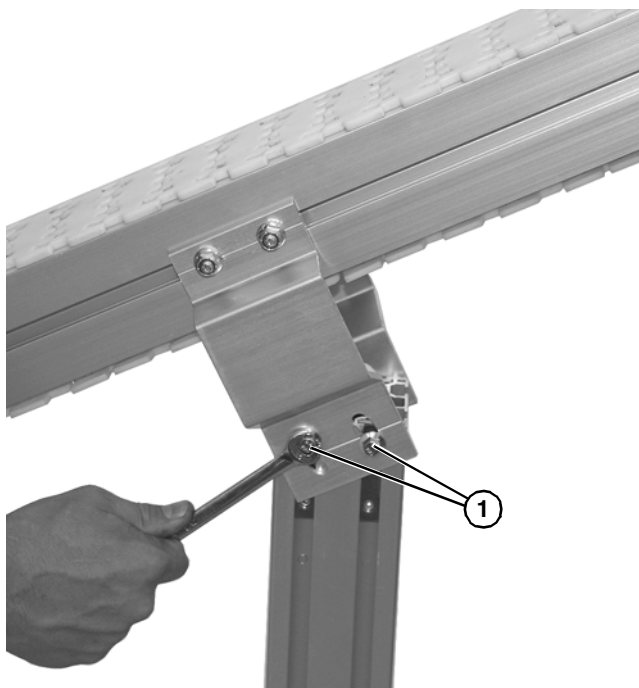

Figure 8
Failure to secure screws (Figure 8, item 1) may cause conveyor sections to drop down, causing severe injury.
TIGHTEN SCREWS (Figure 8, item 1) AFTER ADJUSTMENT.
1. Loosen two flange socket head screws (Figure 8, item 1) on both sides of stand.
3. Secure flange socket screws (Figure 8, item 1) to 24 ft-lb (18 Nm).